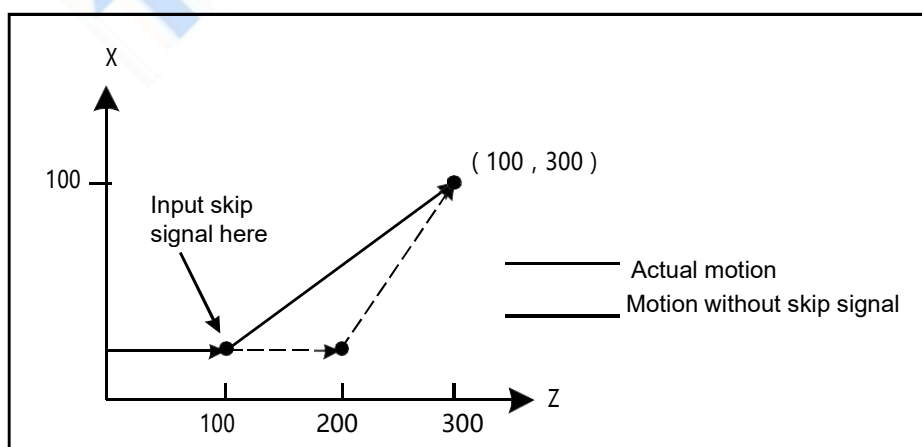

Fig. 3-15
3. The next block of G31 is the absolute coordinate programming of two axes shown in Fig. 3-15: Program: